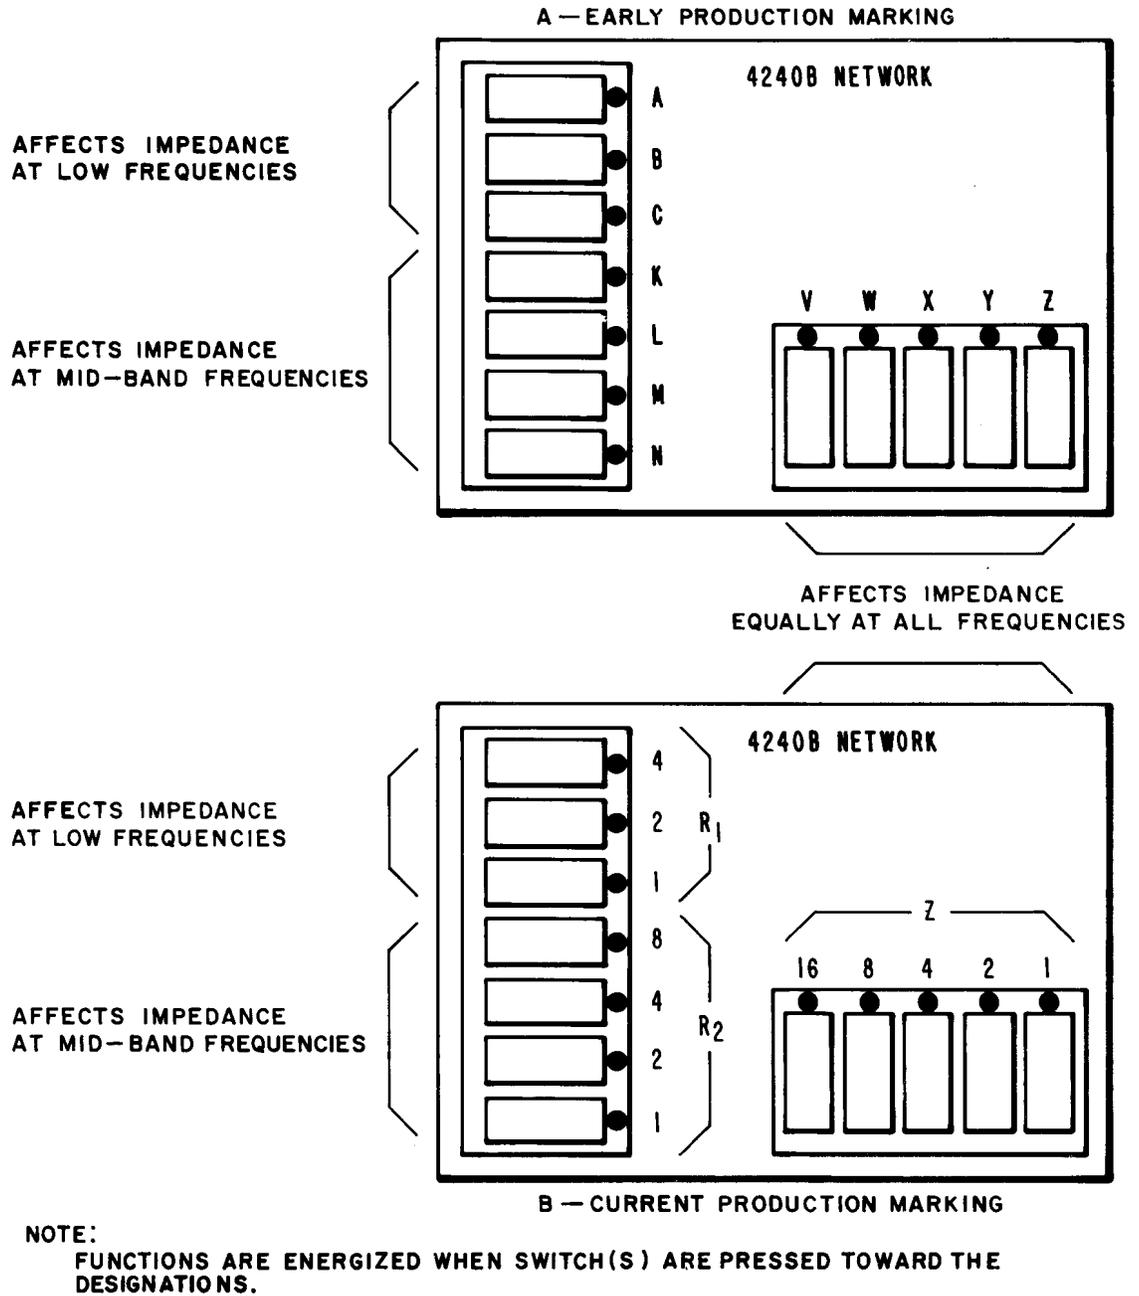
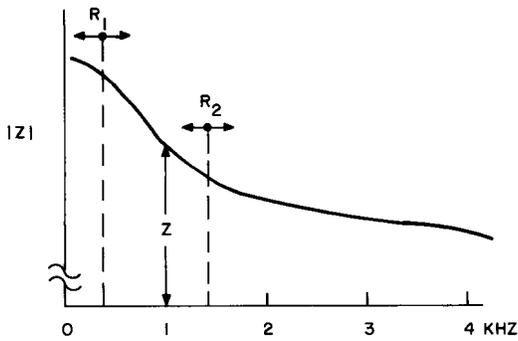

Fig. 9—4240B Precision Balancing Network Switch Functions
Fig. 10—Effect of 4240B Controls on Impedance
3.04 Precision balance for transformer hybrids interfacing nonloaded 2-wire cable is accomplished by a 4240B network. The 4240B controls are shown in Fig. 9. Two diagrams are shown due to label changes as described for the 4240A controls. The R1 or ABC controls affect the point at which the network impedance begins decreasing with an increase in frequency. The R2 or KLMN controls determine the frequency at which the impedance curve levels out. The R1 adjustment will affect the frequency at which the impedance curve levels out and should therefore be adjusted before setting R2. The Z or VWXYZ controls determine the value of impedance across the voiceband, as shown graphically in Fig. 10. The three sets of switches on the 4240B are set similar to the method described for setting the 4240A PBN. A typical setting for the 4240B contains three parameters such as the following: